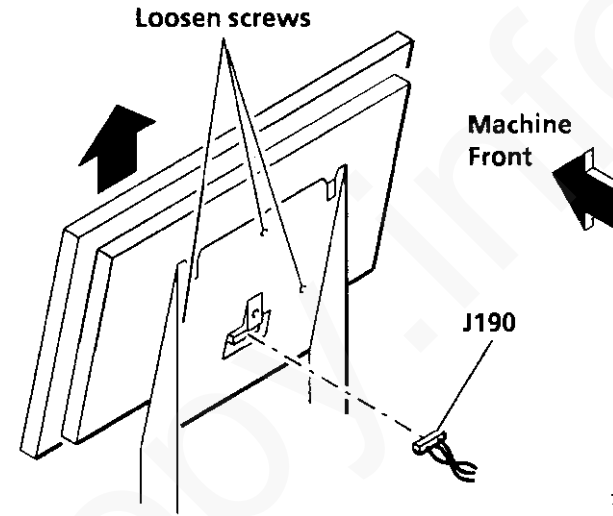

Figure 1. Control panel removal
- c. Remove three (3) screws securing left side cover.
- d. Loosen three screws securing the control panel to the bracket (Fig 1).